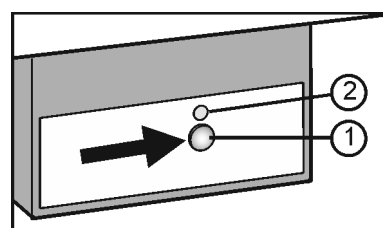

Fig. 6
- ▶ Press On/Off button *Fig. 6 (1)* so that the LED *Fig. 6 (2)* lights up.